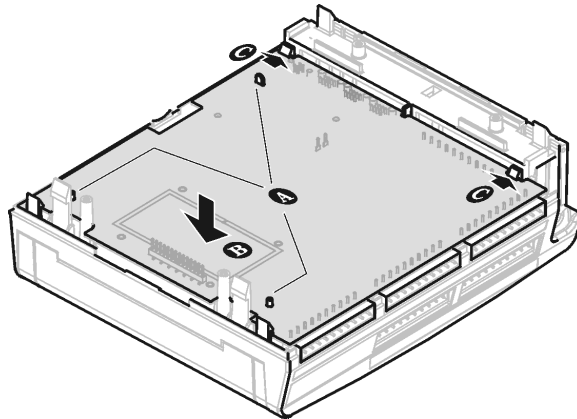

Figure 29
Hold the Main board with the push-button facing down and the 10-pin connectors on the right. Lower the board, aligning the two small gray round pegs (A) (see Figure 29) on the bottom of board and the small oblong peg on the upper left-hand side of the board with the matching grooves. Using both thumbs, press the bottom of the Main board under the two bottom snaps (B). Use both thumbs to press the top of the board under the two top snaps (C).